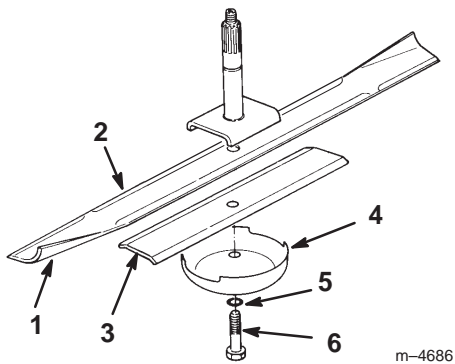

Figure 23
2. Remove the blade bolt, lock washer, anti-scalp cup, blade, and spacer from the spindle shaft (Fig. 23).
4. If the blade is not balanced, file some metal off the end of the sail area only (Fig. 23).
1. Install the spacer and blade onto the spindle shaft (Fig. 23).
2. Install the anti-scalp cup, lock washer, and blade bolt (Fig. 23).